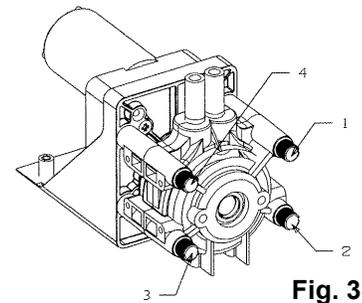

Fig. 3
3. Loosen and remove the four screws from the pump body (see fig 3).